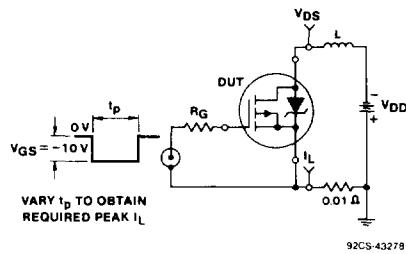

Fig. 15 - Unclamped inductive test circuit.
(See Figures 15 and 16)
4. $V_{DD} = 50\text{V}$, Start $T_J = +25^\circ\text{C}$, $L = 35.5\text{mH}$, $R_G = 25\Omega$, Peak $I_L = 3.5\text{A}$ (See Figures 15 and 16)